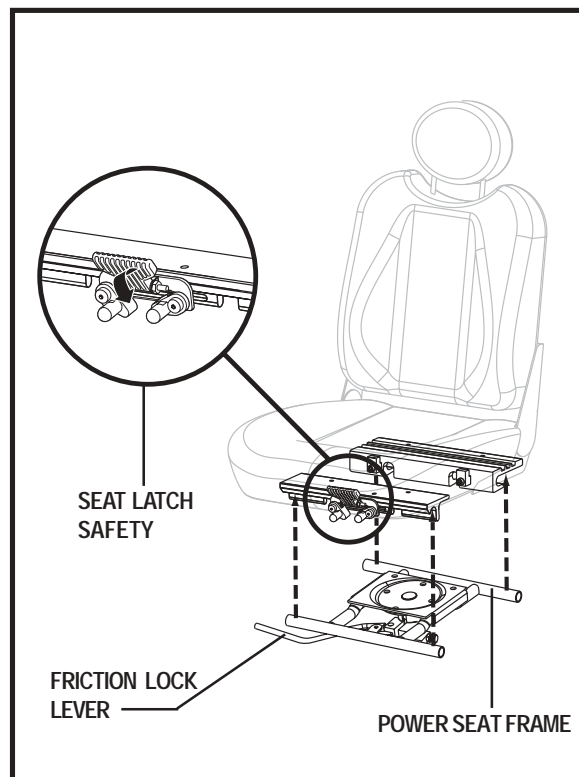
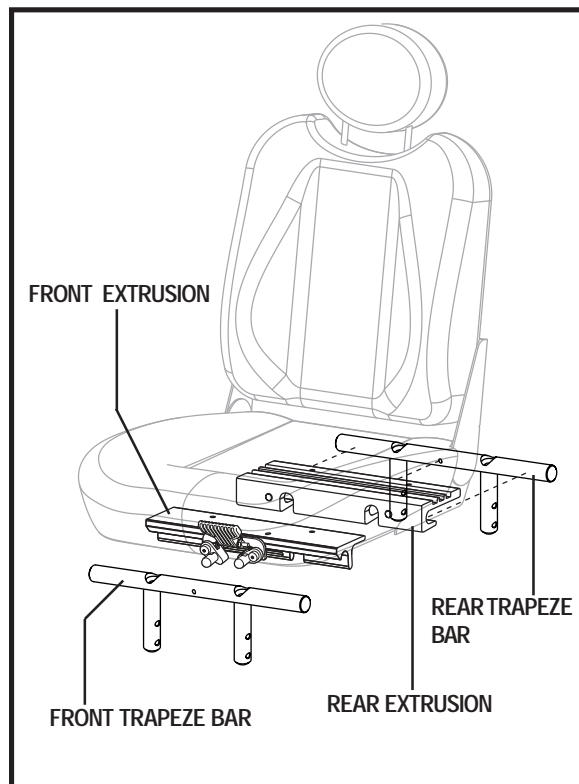

Figure 11. UMS - Power Elevating Seat System
Figure 12. UMS - Optional Seating System
It may be necessary to install the seat either prior to initial operation or after transporting your power chair. Most seats are attached to the power base with the Universal Mounting System (UMS). The UMS consists of universal parts that may be attached to any medium-back or high-back seat, regardless of seat width or seat depth. The two main components are aluminum extrusions mounted to the seat base. These extrusions attach to the power seat frame (see figure 11) or to a pair of trapeze bars that are mounted to the power base (see figure 12).
4. Flip the seat latch safety down. See figure 11.